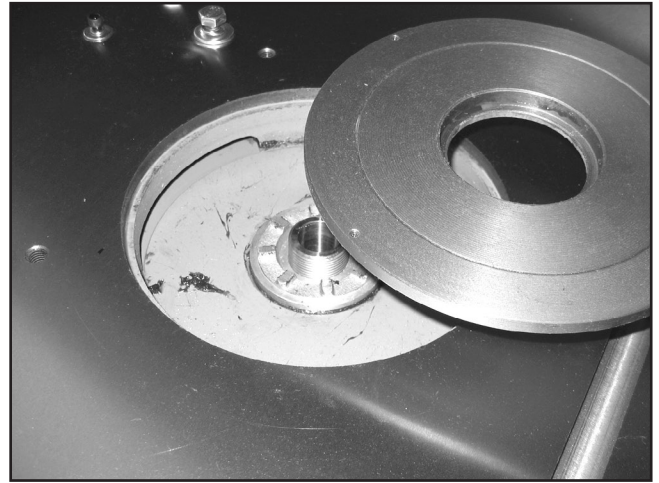

Figure 4. Inner table insert removed.
5. Remove the inner table insert, as shown in **Figure 4**.